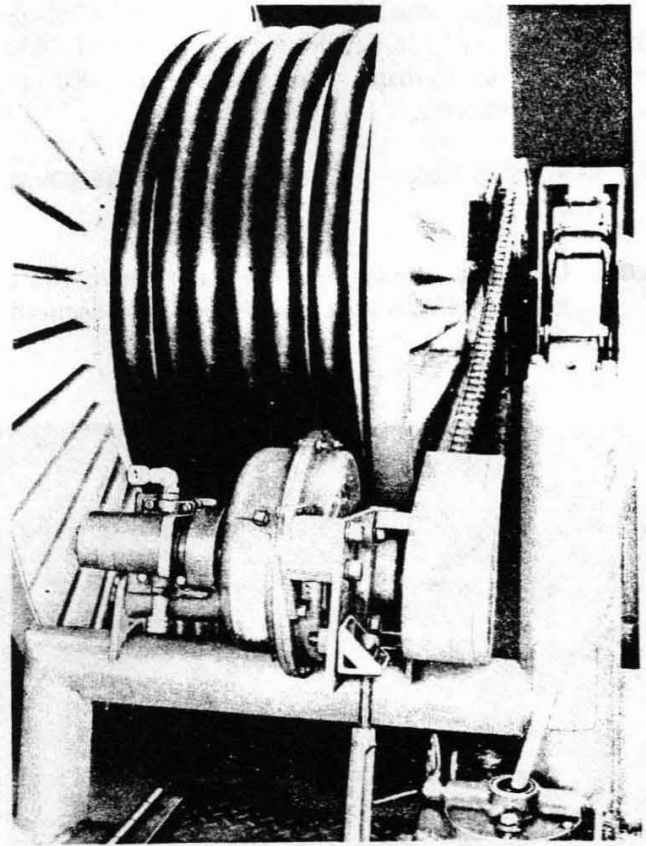

Fig. 2—AT-8490 Cable Take-Up Drive
4.04 The AT-8490 cable take-up drive (Fig. 2) consists of a reel drive sprocket, a drive chain, a chain guard, helical gear reducer, a hydraulic motor, a flexible coupling, and a frame. The complete unit has a total weight of approximately 260 pounds.